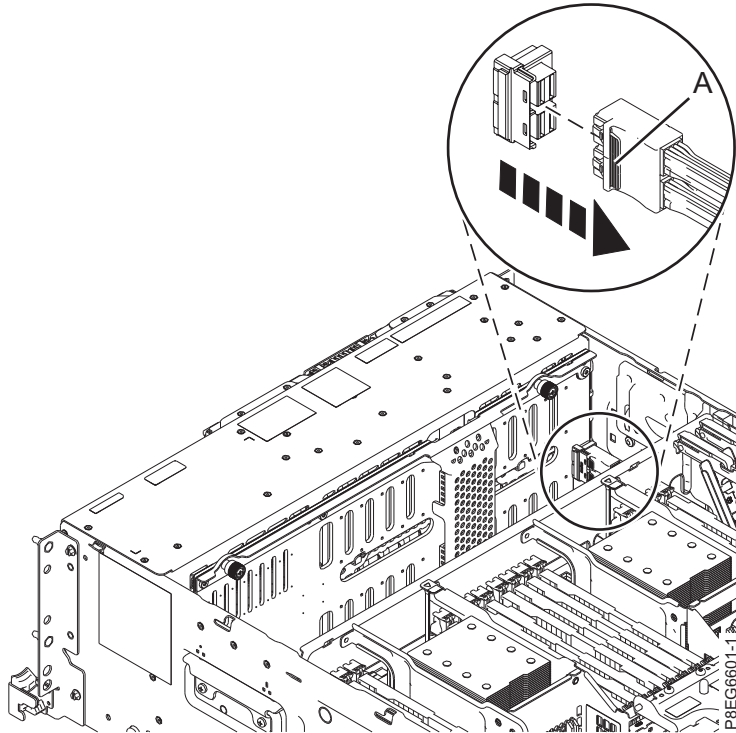

Figure 2. Unplugging the SAS cable from the disk drive backplane
4. Label the front SAS cable that is attached to the SAS RAID internal adapter in slot P1-C15. Press the latch (A) and unplug the connector of this cable from the disk drive backplane, as shown in Figure 2 on page 5. Leave the other end of this cable plugged in to the P1 connector of the SAS RAID internal adapter.